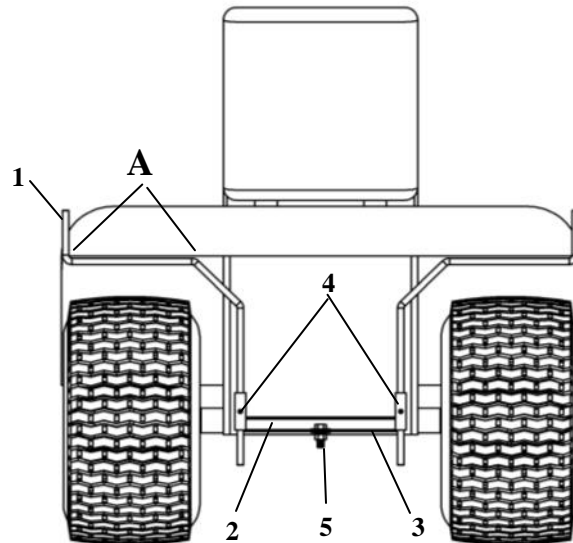

Figure 2
Insert the rear support rods (fig.2, item 1), the longest end into tow hitch support or the counterweight support (item 2).
Adjust the horizontal section of the rear rod support (fig.2, item A), so it is located $1/8$ " below the mud guard and 1" behind the mud guard.
Once installation is complete, adjust the cab by pulling the rear support rods (fig.2, item 1) toward the back to achieve a snug fit.